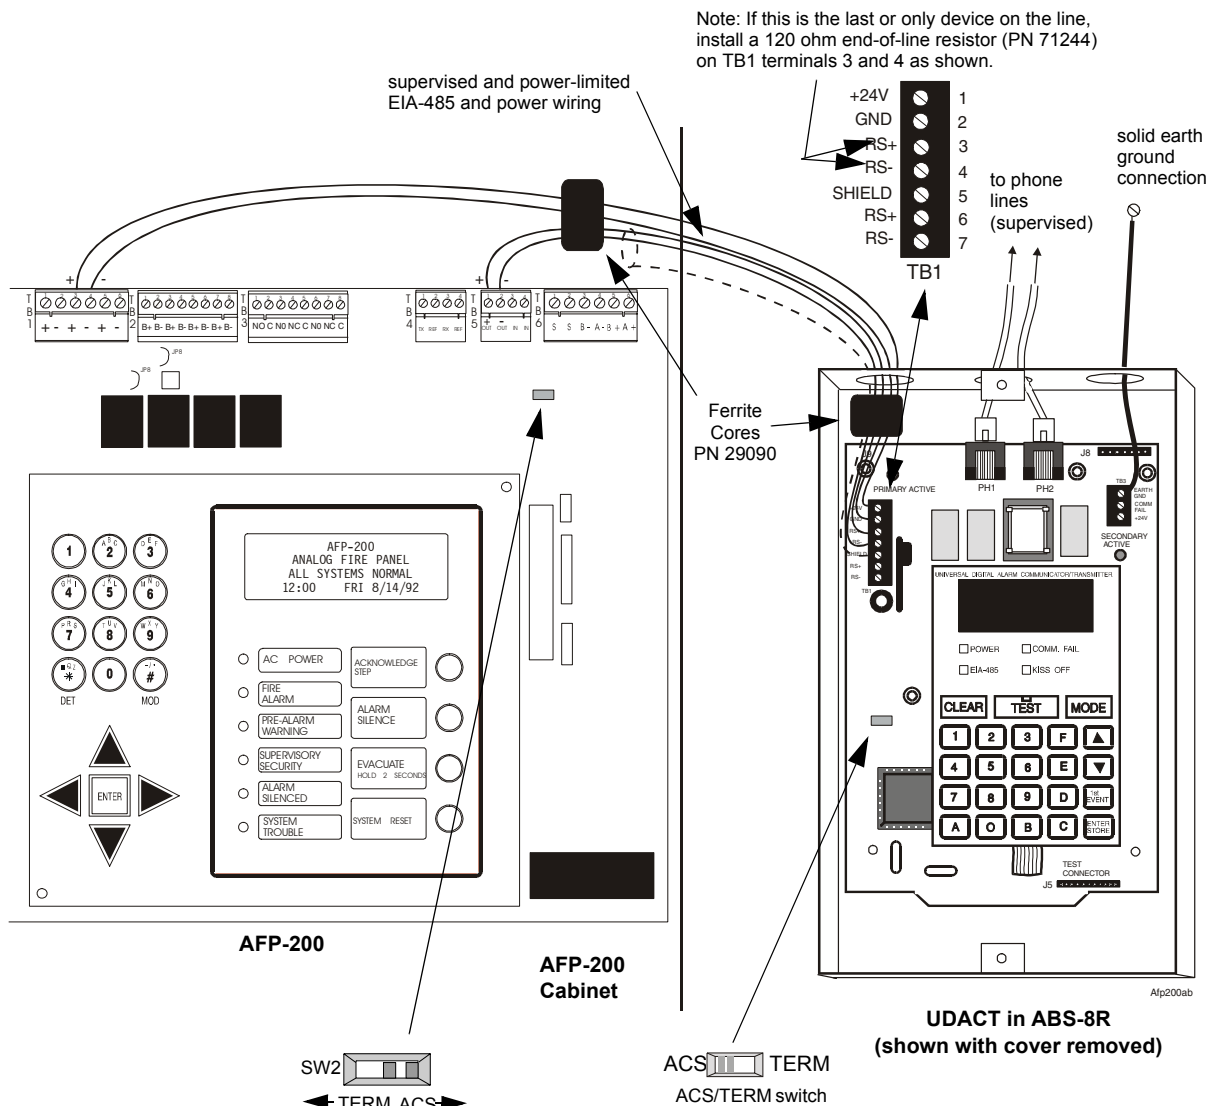

Figure 130 NFPA 72 Central Station Fire Alarm System – UDACT (Protected Premises Unit)
Figure 130 shows typical connections for wiring a UDACT to the control panel. For detailed wiring, configuration, and programming instructions for the UDACT, refer to the UDACT manual. When finished installation, review the checklist below.
1. Is the UDACT connected to non-resettable 24 VDC power on the control panel [TB1, terminal 3 (+) and terminal 4 (–)] with correct polarity (Figure 130)?
2. Is the UDACT connected to the EIA-485 port on the control panel, [TB5, terminal 1 (+) and terminal 2 (–)] with correct polarity (Figure 130)?
3. Is the UDACT ACS/TERM switch set to the ACS (left) position (Figure 130)?